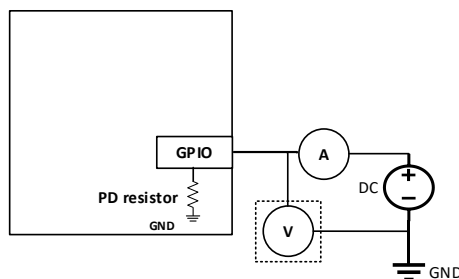

Figure 6-3 I/O Pull down resistor test
- (1) Configure the GPIO to be tested as input mode.
- (2) Configure the GPIO registers to be tested as 0 for `gpio@_pu` and 1 for `gpio@_pd`.
- (3) For GPIOs with multiple pull-down resistance values, it is necessary to change the configuration of the register `gpio@_pupdc` and test them separately.
- (4) When the ammeter is not connected, measure the voltage of the GPIO pin to be tested, and the voltage value is 0V.
- (5) According to Figure 6-3, use an external power supply to provide the same voltage (V_2) as the GPIO power, and measure the current (I_2) at this time, and the pull-up resistor is $R_{pd}=V_2/I_2$.